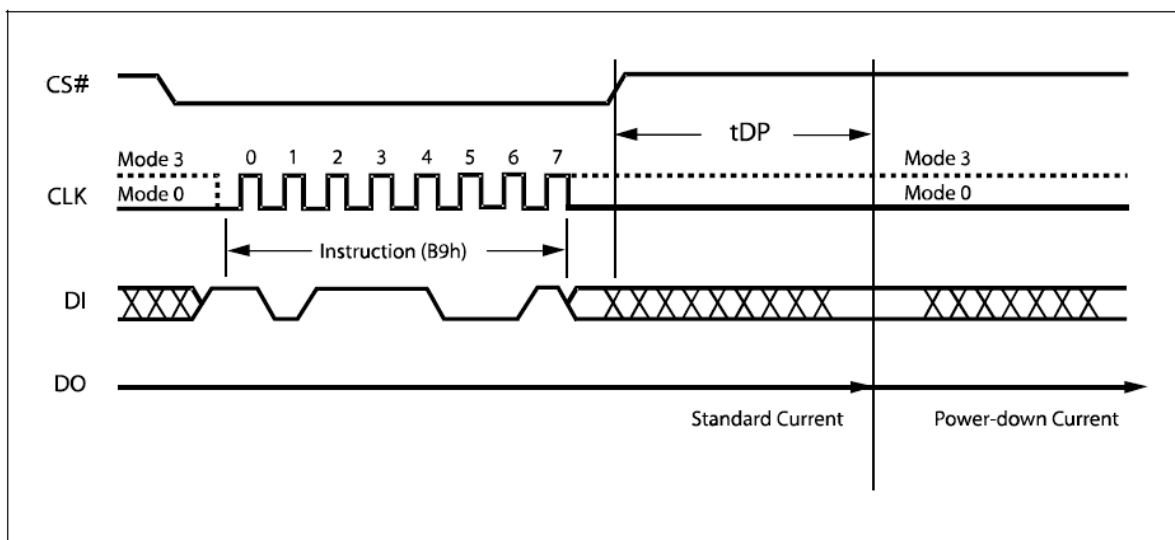

Figure 26. Deep Power-down Instruction Sequence Diagram
The instruction sequence is shown in Figure 26. Chip Select (**CS#**) must be driven High after the eighth bit of the instruction code has been latched in, otherwise the Deep Power-down (DP) instruction is not executed. As soon as Chip Select (**CS#**) is driven High, it requires a delay of t_{DP} before the supply current is reduced to I_{CC2} and the Deep Power-down mode is entered.